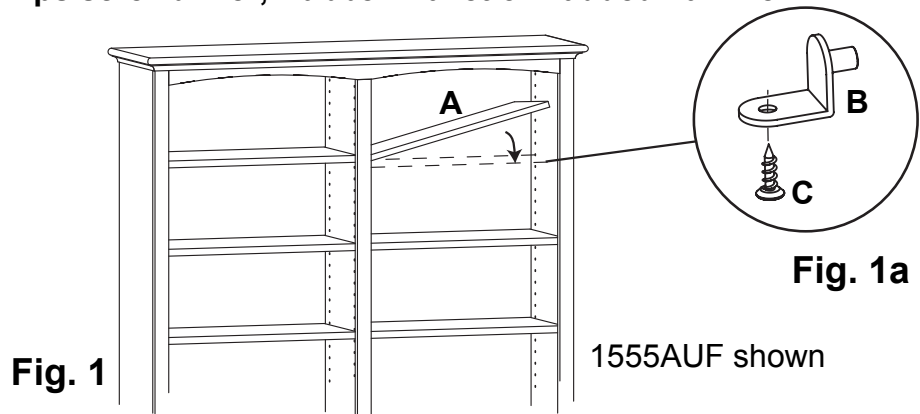

Fig. 1
1. Determine where you want to place the Adjustable Shelves (A). To support each shelf, tap the Shelf Brackets (B) into the four holes with the flat side down. Insert the shelf as shown in Figure 1. You may fasten the brackets to the shelf by inserting a #6 x 1/2" Undercut Screw (C). Repeat for each shelf. See Figure 1a.
2. Level the unit using the Adjustable Glides (I) located on the bottom of the bookcase.
3. When you have determined the location for your unit, install the Furniture Tipping Restraints (TR). Carefully follow the instructions on the package. If you cannot locate studs, purchase the proper tipping restraints for your type of wall and install.